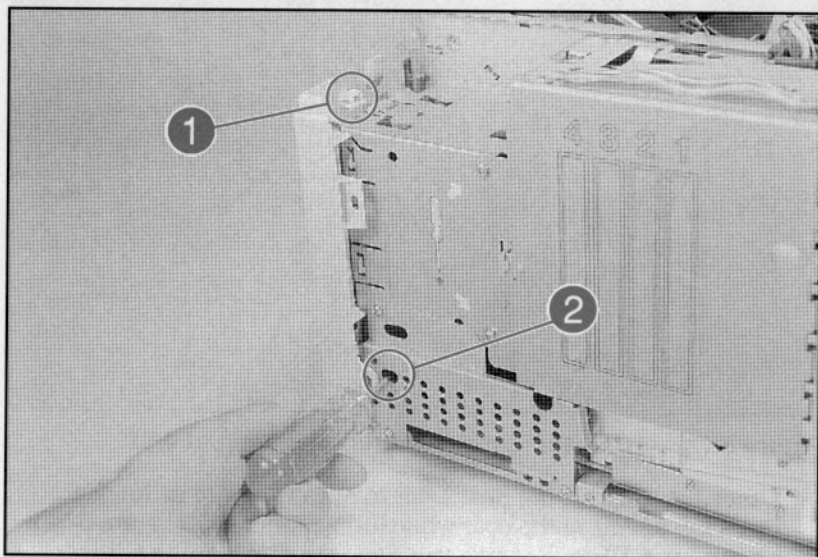

Figure 6-8 Font Door Removal (LaserJet 4 shown)
- 2 Release the top latch (see Figure 6-8, callout 1).
- 3 Release the (2) lower latches through the access hole in the metal cover (see Figure 6-8, callout 2 and Figure 6-9, callout 1).
- 3 Release the top latch. (See Figure 6-8, callout 1)
- 5 Release the (2) lower latches, one through the access hole in the metal cover (see Figure 6-8, callout 2), and one from the bottom of the printer (next to the Tray 2 guide).